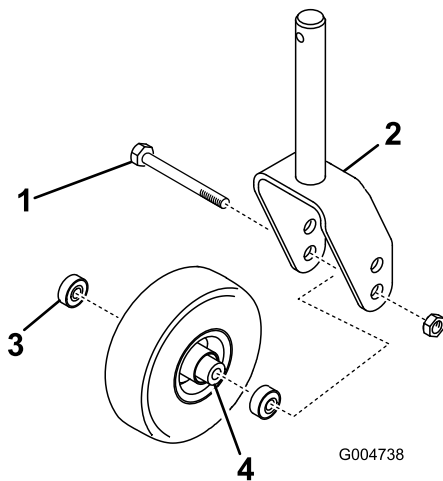

Figure 98
1. Remove the locknut from the bolt holding the castor wheel assembly between the castor fork (Figure 98) or the castor pivot arm. Grasp the castor wheel and slide the bolt out of the fork or pivot arm.
2. Remove the bearing from the wheel hub and allow the bearing spacer to fall out (Figure 98). Remove the bearing from the opposite side of the wheel hub.